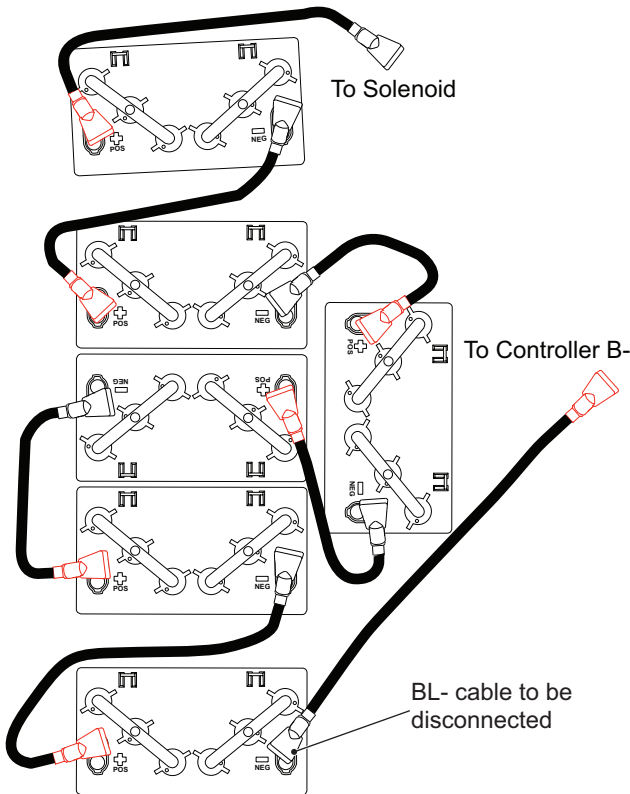

Fig. 6 Disconnect Battery Cable
1. Use an insulated wrench to disconnect the negative (-) battery cable from the battery (Ref. Fig. 6).